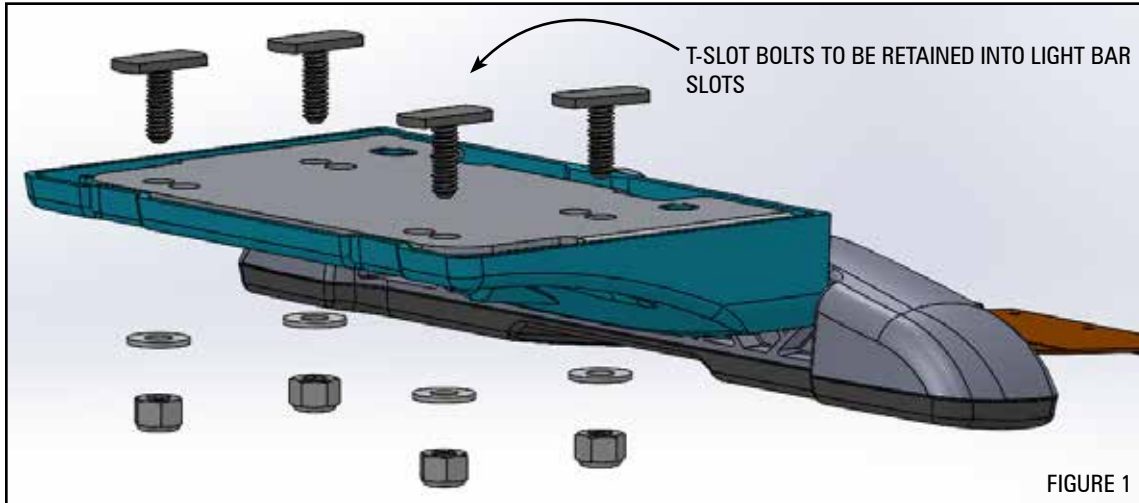

FIGURE 1
1. Install driver and passenger side hook assemblies onto the bottom of light bar using the (4) T-slot mounting bolts, washers and lock nuts. (Figure 1)
3. Tighten the (4) T-slot mounting bolts to secure hook assemblies to the bottom of the light bar. Tighten to the torque details below: